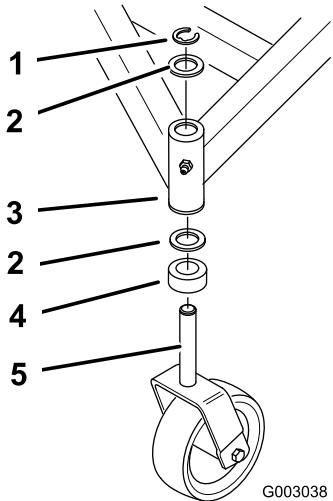

Figure 35
3. Remove the retaining ring and thrust washer(s) from the top of the castor wheel fork (Figure 35).
- Inspect the castor wheel fork for wear and replace if necessary (Figure 35).
- Slide the castor wheel fork through the bushings in the mounting tube. Replace the spacer(s) onto the fork and secure with the retaining ring (Figure 35).